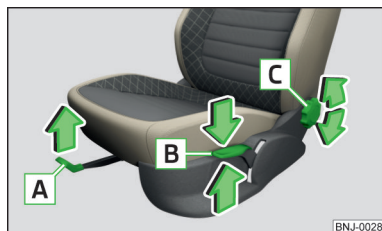

Fig. 54
Control elements on the seat » Fig. 54
- » Pull the lever **A** » Fig. 54 in the direction of the arrow and push the seat in the required direction.
- » Again push or pull the lever **B** » Fig. 54 in the direction of one of the arrows.
- » Turn the dial **C** » Fig. 54 in the direction of one of the arrows.